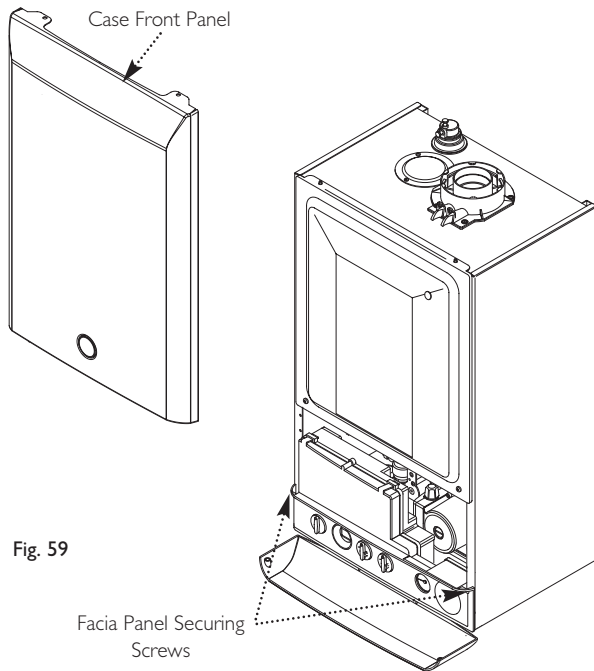

Fig. 59
5. Slacken the screws securing the facia panel. Lift the outercase panel so that its securing tabs are clear of the facia. Remove the panel, allowing the facia to hinge down (Fig. 59).